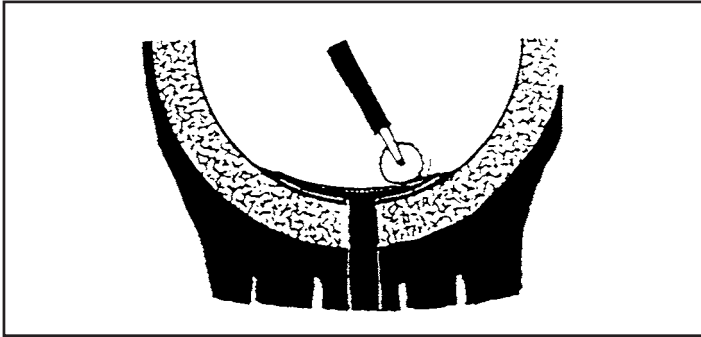

Fig. 12
16. Trim extending portion of stem about 1/16 inch above tread surface. Do not pull on the stem while cutting. See **Fig. 12**.